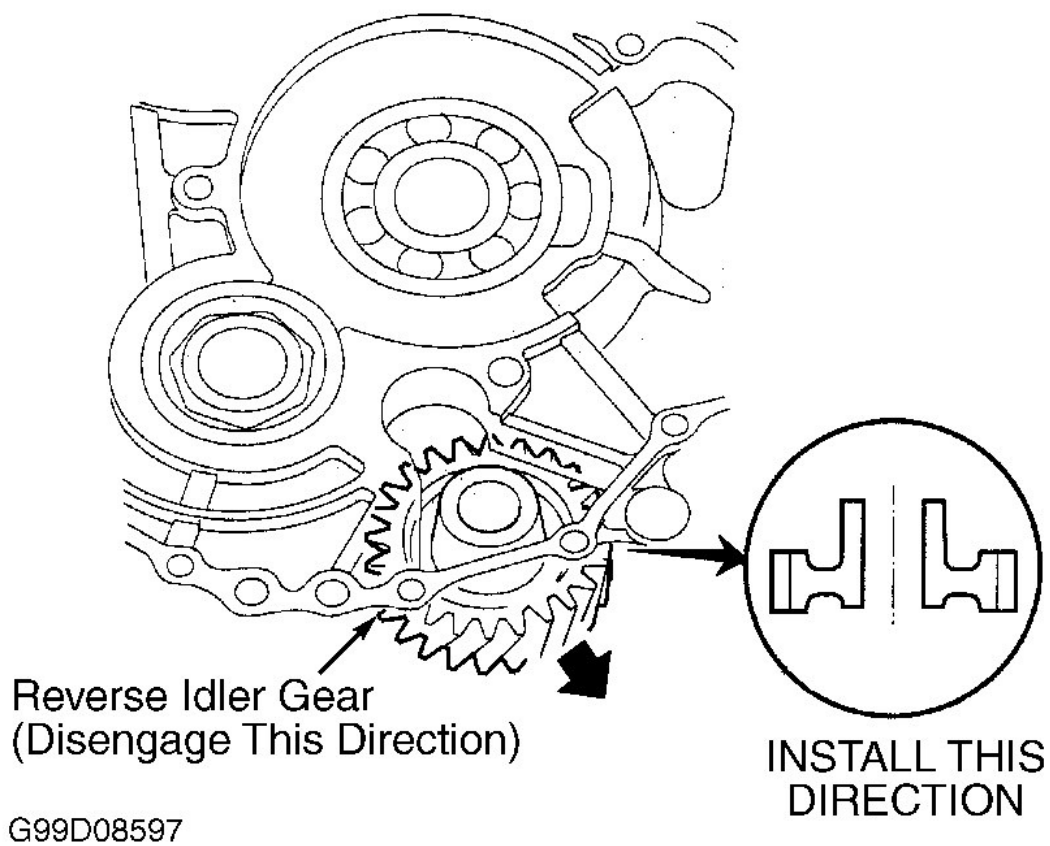
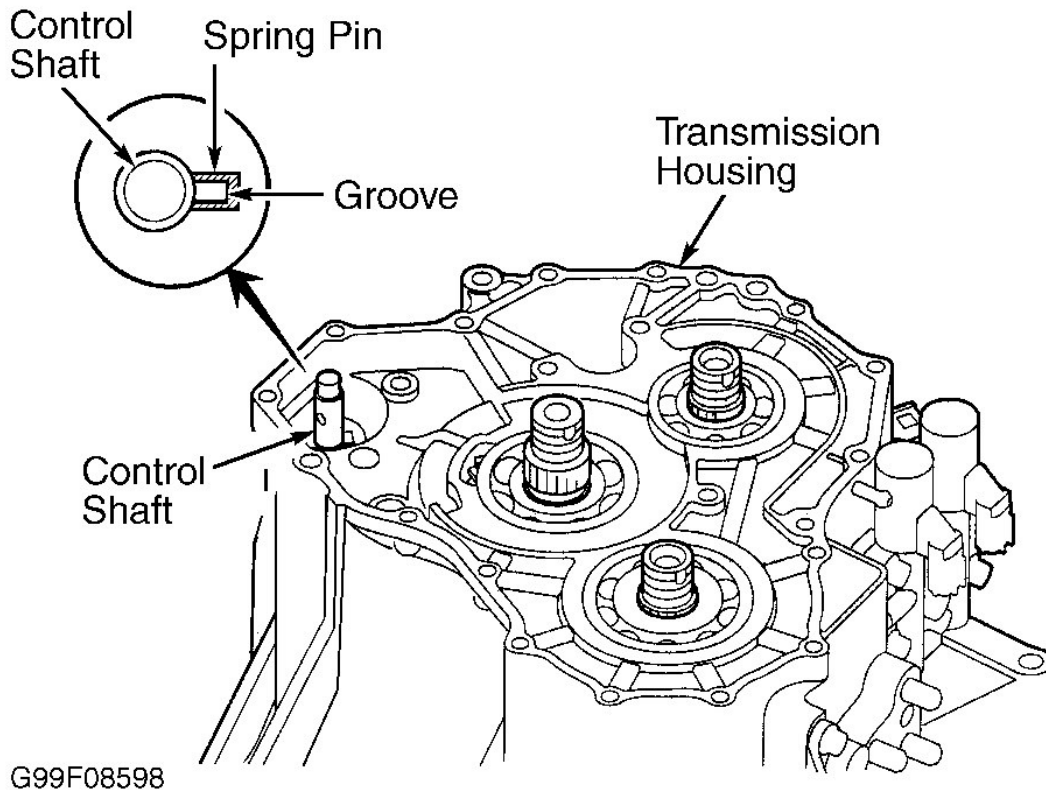

Fig. 10: Disengaging Or Installing Reverse Idler Gear
Fig. 11: Control Shaft Alignment & Housing Removal
2. Disengage reverse idler gear from mainshaft and countershaft reverse gears. See **Fig. 10** . Align control shaft spring pin with transaxle housing groove by turning control shaft. See **Fig. 11** .